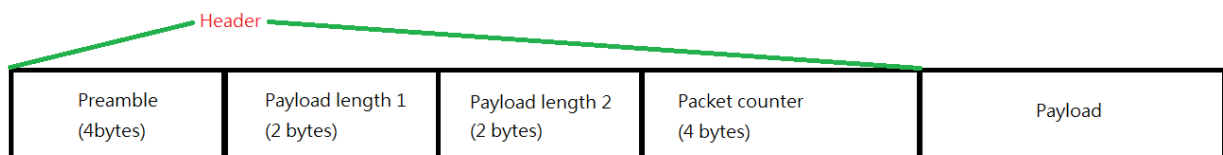

Figure 2: Header format in lab 1
In this lab, the header consists of three fields: 1) preamble, 2) payload length and 3) packet counter. Fig. 2 illustrates the allocated bytes (8 bits) for each field. The purpose of each field is listed as follow:
- **Formatter:** The inputs to this block are: 1) Preamble bytes array, 2) Payload bytes array, and 3) Packet counter (unsigned integer). Refer to the format shown in Fig. 2 and generate header accordingly. Next, you have to combine header and payload to generate a packet. Finally, convert bytes to bits before connecting to output port.